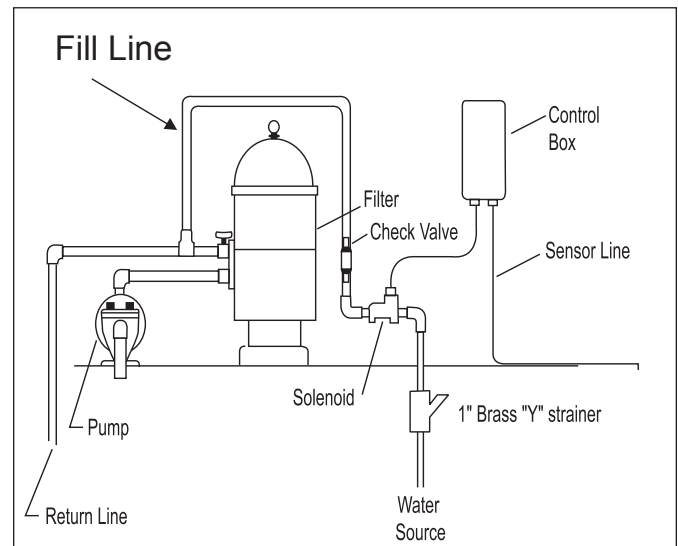

Figure 2. K-2100 Installation
1. Mount the control box to the wall near the pump and filter. See Figure 2. Do not install the control box within 10 feet (3 meters) of the pool edges.